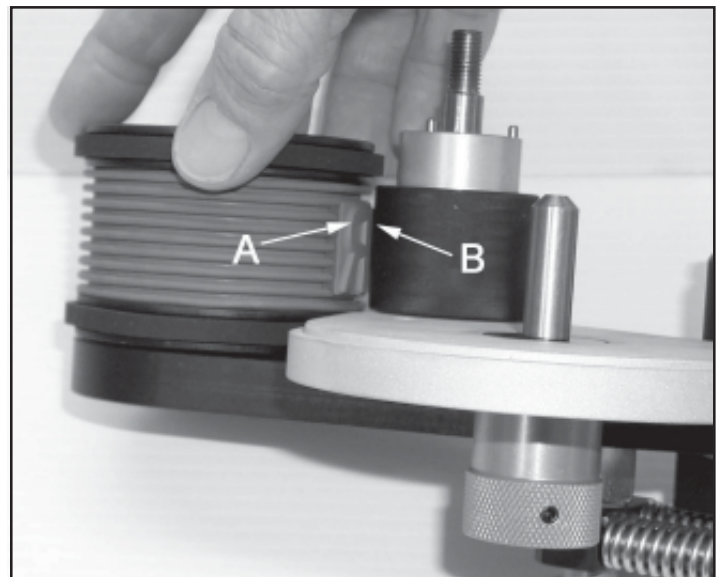

FIGURE 49
**3 - Rotate the print drum until one of the characters "A" is centered against the transfer roll "B" as shown in Figure 49. Gently slide the inking system towards the print drum, applying a minimal amount of force. While holding the inking system in position, lightly tighten the 2 Inking System Mounting Screws.**